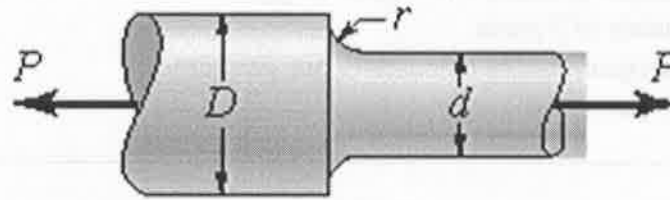

Fig.3.
5. A circular bar subjected to a axial load of 5 k N is shown in Fig.3. If the $D = 2d$ mm, $r = 0.1d$ mm and factor of safety is 2. Determine the diameter (d) of the beam. ($\sigma_{ut} = 200 \frac{N}{mm^2}$).